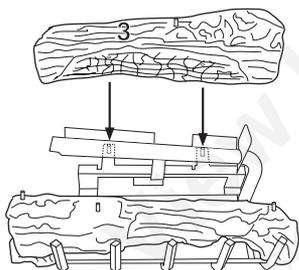

Figure 36 - Installing Log #3, Model CD42M-A
- Place log #3 (rear log) onto pins on rear of grate (see Figure 36).